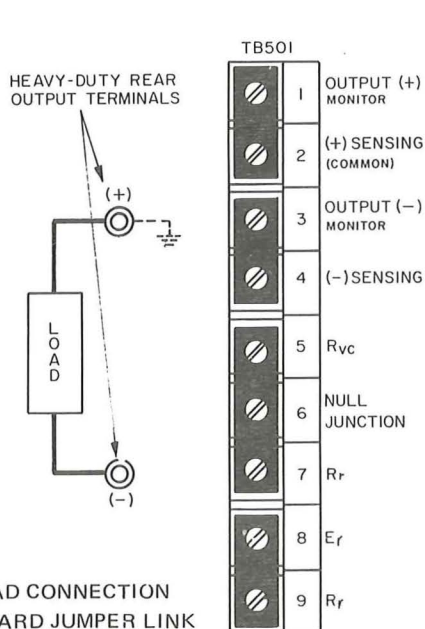
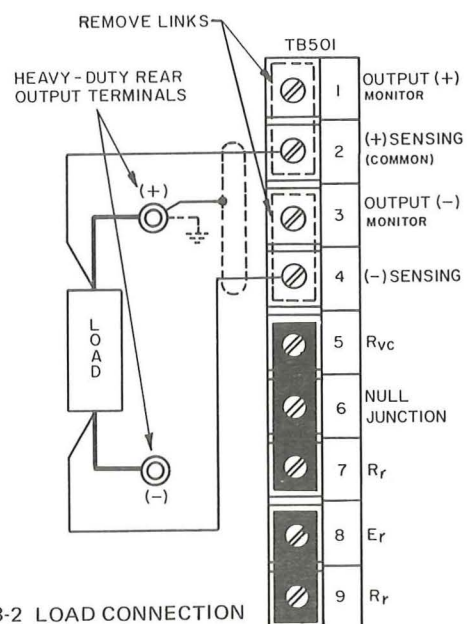

FIG.3-1 LOAD CONNECTION AND STANDARD JUMPER LINK CONNECTIONS WITHOUT ERROR SENSING
FIG. 3-2 LOAD CONNECTION USING REMOTE ERROR SENSING
3-2 GENERAL. The Power Supply is shipped from the factory with five (5) removable jumper links in place at the rear barrier strip (TB501) as shown in FIG. 3-1. THESE LINKS MUST BE IN PLACE AND SECURED TIGHTLY for standard local operation. Loose terminal links or wires at the barrier strip will cause malfunction of the power supply.
3-3 LOAD CONNECTION The load may be connected in any of the two ways illustrated (FIG. 3-1,3-2). Load connecting wires should be as heavy as practicable, since load wire voltage drops will degrade regulation performance. Twisting of load wires will help to preserve the low output impedance of the power supply. To keep the DC voltage drop in the load connecting wires to a minimum, and to preserve the dynamic characteristics of the power supply (AC stability, output impedance and recovery time), load wires and error sensing leads should be as short and as large in diameter as practicable. Both lead pairs should preferably be tightly twisted. For minimum ripple and noise pick-up, the error sensing leads must be shielded. The shield, as well as one side of the output (preferably the positive), should be returned to the common ground point (Refer to FIG. 3-2)
3-5 Specified regulation performance DIRECTLY AT THE LOAD requires the use of remote error sensing. A twisted, shielded pair of wires from the sensing terminals directly to the load will compensate for load wire voltage drops up to 0.5 volt per wire (Refer to FIG. 3-2). Observe polarities: The positive sensing wire [from terminal (2)] goes to the positive load wire.